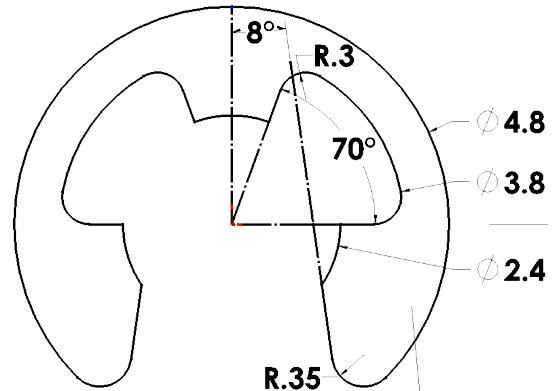

Fig. 18
Step 3. Click **Mirror Entities**  **Mirror Entities** on the Sketch toolbar, Fig. 18.